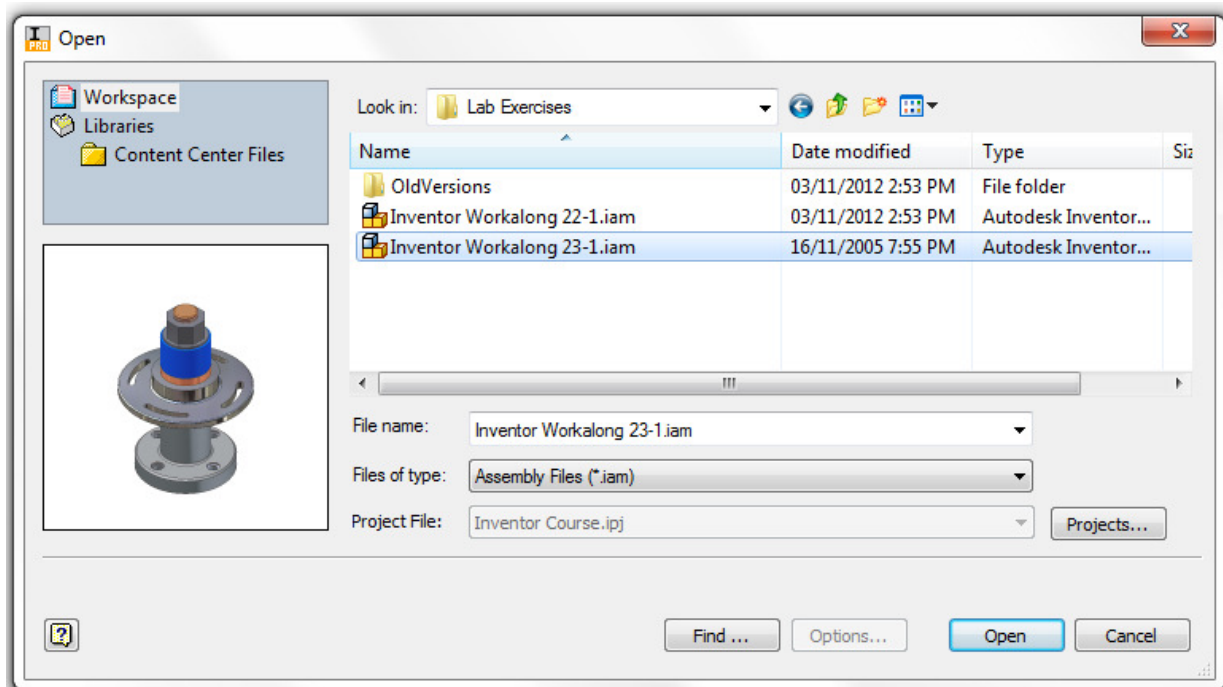

Figure Step 8
Step 8 Click the Search Folder icon at the end of the file name. It will open the Open dialogue box. In the Lab Exercises folder, select the file Inventor Workalong 23-1.iam and click Open. (Figure Step 8)